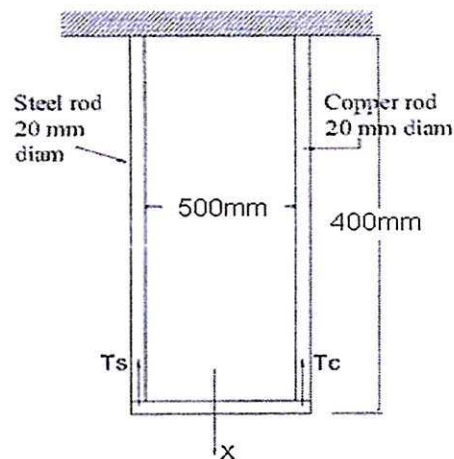

Fig. 1
1. (a) Two vertical rods, one of steel and the other of copper are each rigidly fixed at the top and are 500 mm apart, diameter and length of each rod are 20 mm and 4 m respectively. A cross bar fixed to the rods at the lower ends carries a load of 5000 N such that the cross bar remains horizontal even after loading. Find the tension in each rod. Take $E_s = 2 \times 10^5 \text{ N/mm}^2$ and $E_c = 1 \times 10^5 \text{ N/mm}^2$ (Refer Fig. 1) : [6]